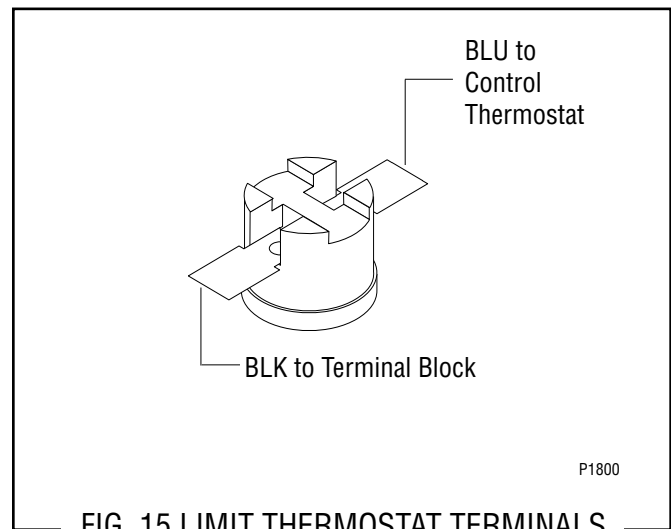

FIG. 15 LIMIT THERMOSTAT TERMINALS
4. Refer to Fig. 15 when reconnecting the wires.